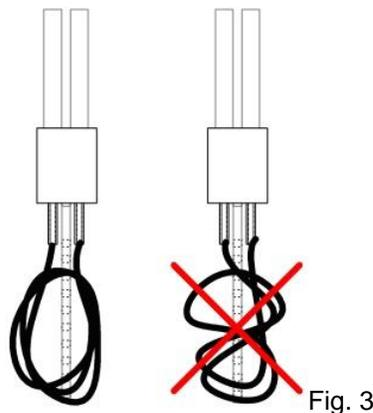

Fig. 3
6. Thread the tube through the perforated plate, making smooth loops in order to avoid pinching the silicone tube (figure 3).